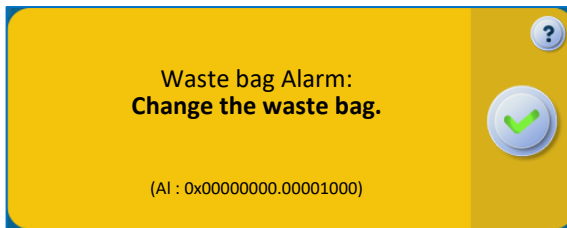

Figure 134 : Waste Bag Alarm (1st situation)
- A second message interrupts the treatment and indicates that the bag can be changed (see Figure 134).